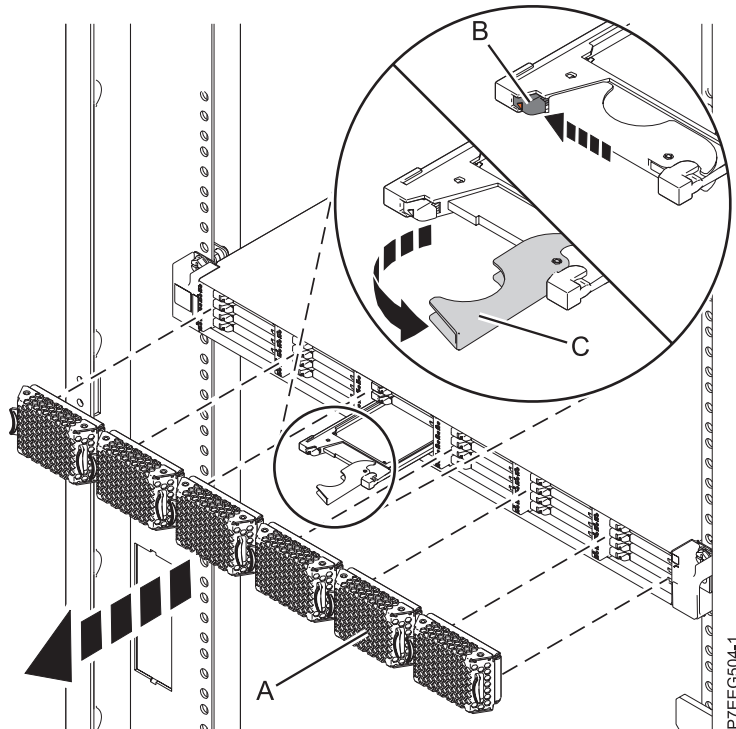

Figure 19. Removing the solid-state drive from the EDR1 PCIe storage enclosure
4. Pull off the bezel (A) that covers the slot that contains the solid-state drive.
5. When the solid-state drive identify LED turns on solid, slide the release latch (B) over gently to unlock the drive handle. See Figure 19 on page 31.
6. Grasp the handle (C) and pull the drive partially out of the slot.